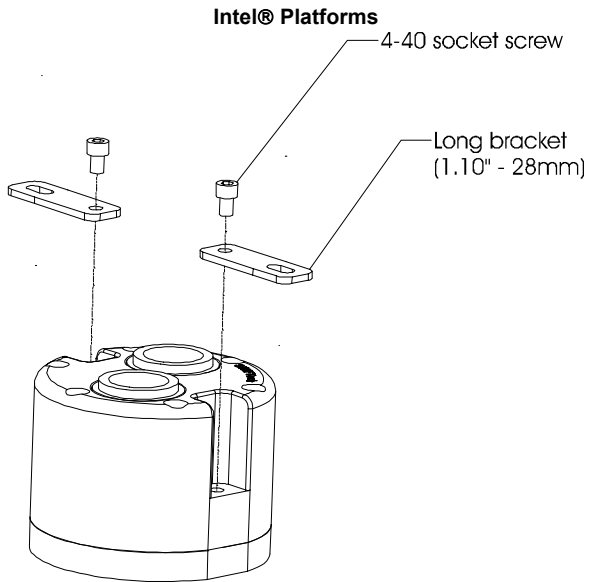

Figure 1
a. Prepare two pieces of tubing of sufficient length to connect to the rest of your circuit. The cuts must be square as shown in figure 1 or leaks may occur: